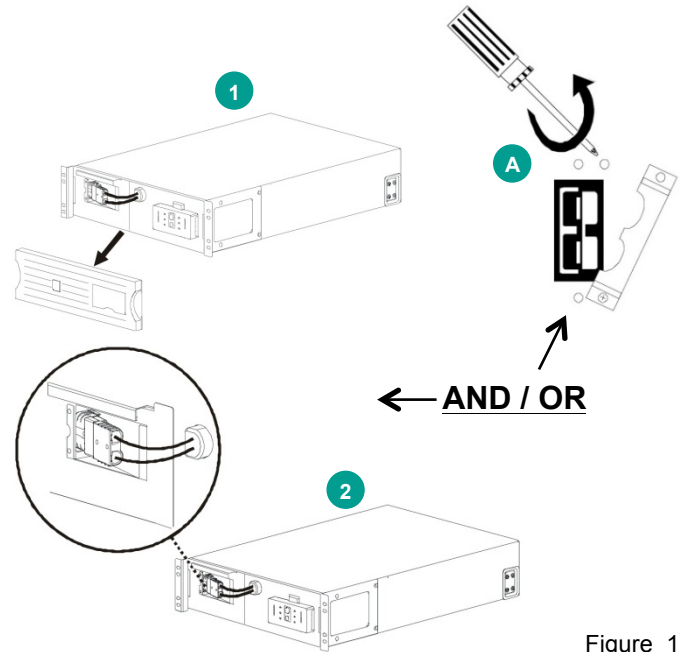

Figure 1
Connect the UPS's Internal Batteries (Figure 1):
**NOTE: The Battery Disconnect/Connector may vary or be omitted on some models. Figure 1 illustrates some of the variations in connectors. Please follow the illustration which best resembles your UPS.**
**Procedure for Figure 1: (1, 2, 3)**
**Procedure for Figure 1: (A)**
- 2.3 Install all external Battery Packs (if applicable). The External Battery Pack connector is located on the rear panel of the UPS, and is either BLUE/RED (48V) or GREY (24V). If the External Battery Pack Connector has a metal cover, remove the fastening screws and move the cover as in Figure 1.A. **2**